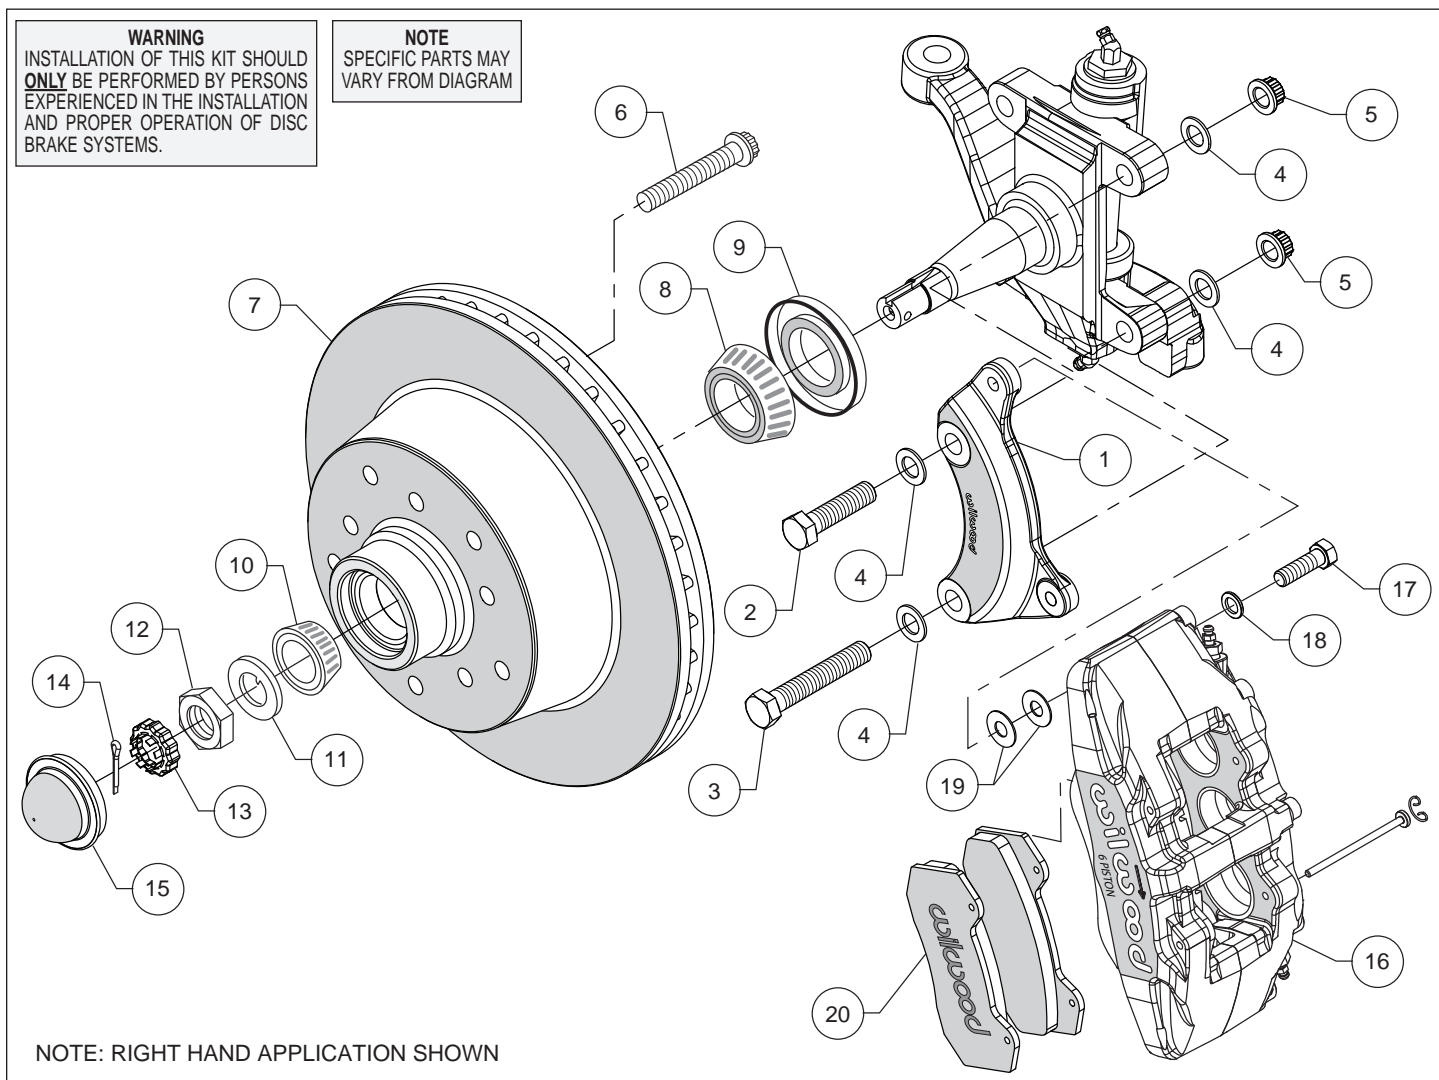

Figure 1. Typical Installation Configuration
Assembly Instructions (numbers in parenthesis refer to the parts list, on the preceding page and Figure 1):
- Orient the caliper mount bracket (1) as shown in Figure 1 and Photo 1, and install using bolts (2 and 3), washers (4) and lock nuts (5). Temporarily tighten the mounting bolts. **NOTE:** *The bracket must fit squarely against the mount bosses on the upright.* Inspect for interference from casting irregularities, machining ridges, burrs, etc. Torque lock nuts to 65 ft-lb.
- NOTE:** *This kit contains distinct right and left hand calipers that must be mounted in a specific direction, as described below.* Mount the caliper (16) onto the caliper mounting bracket (1) using bolts (17) and washers (18), as shown in Figure 1. Initially place two .035" thick shims (19) on each bolt between the caliper and the bracket, Photo 7. Ensure that the caliper is mounted so the largest pistons are at the rotor exit end of the caliper, in relation to the direction of rotor rotation. Temporarily tighten the mounting bolts and view the rotor (7) through the top opening of the caliper. The rotor should be centered in the caliper, Photo 8. If not, adjust by adding or subtracting shims (19) between the bracket and the caliper. Always use the same amount of shims on each of the two mounting bolts. If necessary place spare shims between washer (18) and caliper mounting ear to achieve the proper clinch nut engagement. Once the caliper alignment and clinch nut engagement are correct, remove the caliper.
- Remove the two pad retaining pins from the caliper (16) by carefully popping out the pin retaining clips and sliding out the pins. Insert the brake pads (20) into the caliper from the bottom, Figure 1 and Photo 9, with the friction material facing the rotor. Secure the brake pads in place with the pad retaining pins and clips, Photo 10. Reinstall the caliper onto the caliper mounting bracket. Apply red *Loctite*® 271 to bolt threads (17), and torque to 40 ft-lb.